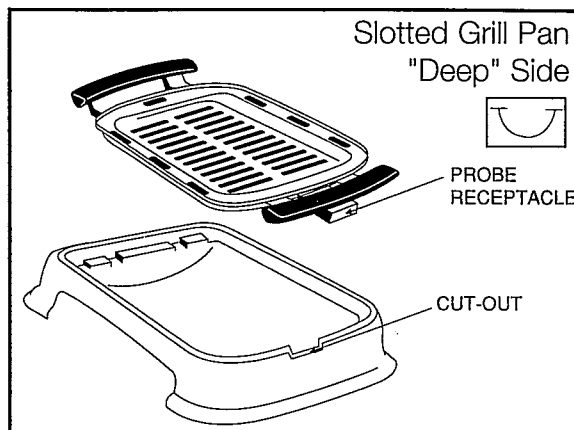

Figure 5
1. Decide whether you will first be cooking with the Slotted Grill Pan (shown in Figures 5 and 6) or the Steamer/Stir Fry Pan.
3. Note the large cut-out in the side of the Drip Tray/Base. Carefully place the Slotted Grill Pan or Steamer/Stir Fry Pan into the Base so that the probe receptacle fits into the cut-out in the Base. See Figure 5.